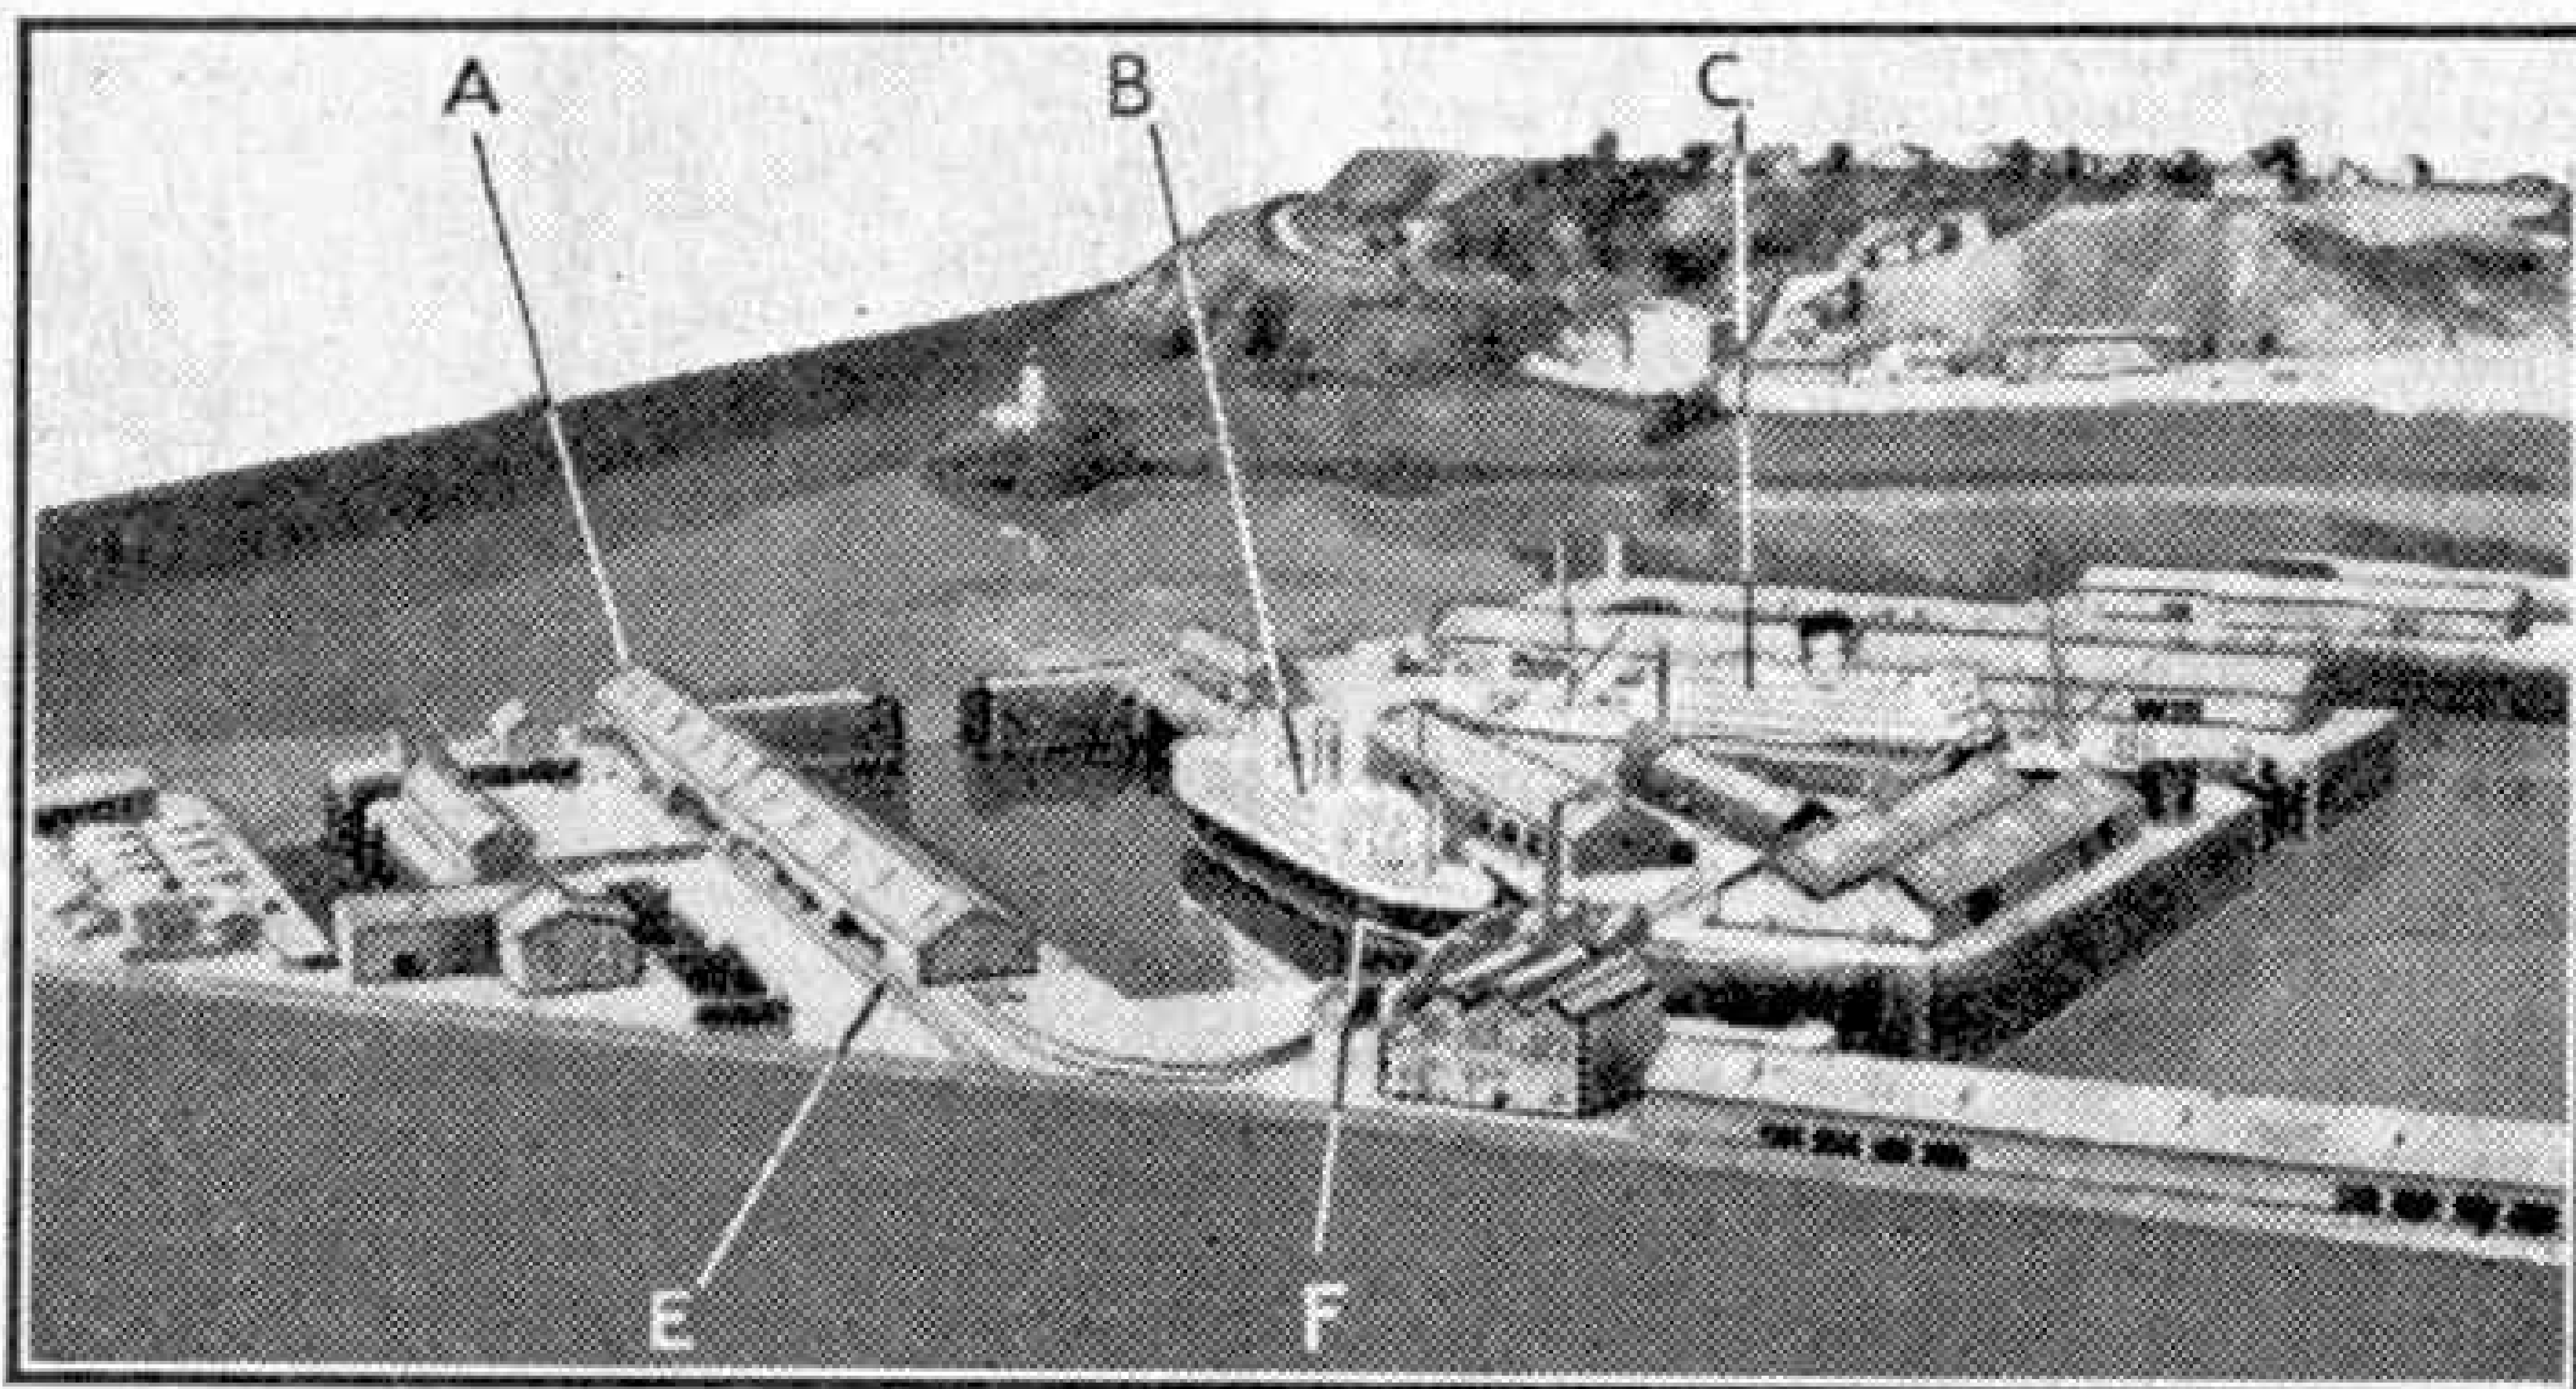

Fig. 2. A further section of the dock area.
A swing girder bridge (F), Fig. 2, has a base of plywood, and the girders are cut cleanly from thin postcard.